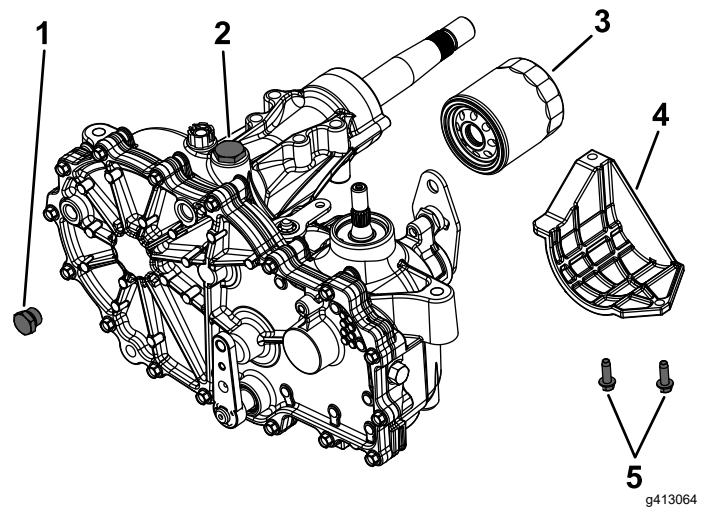

Figure 74
If necessary, add Toro® HYPR-OIL™ 500 hydraulic fluid through the fill port until the fluid appears at the bottom of each transaxle top port (Figure 73 and Figure 74).
4. Locate the filter and guards on each transaxle-drive system (Figure 74).
5. Remove the 3 screws securing the filter guard and guard (Figure 74).
7. Remove the top port plug (Figure 74) from the left side and right side transaxles prior to filling with oil.
9. Install the top port plug into each transaxle as the oil level reaches this port (Figure 74).